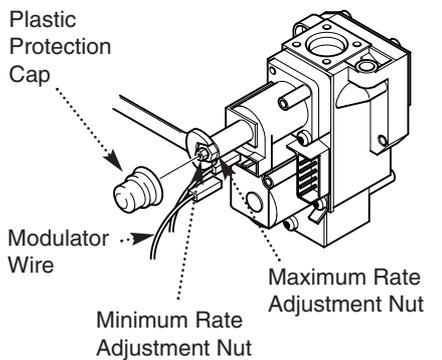

Fig. 35 **NOTE:** Gas Valve Electrical Plug/Igniter not shown for clarity
- Adjusting the Pressure** (Fig. 35)